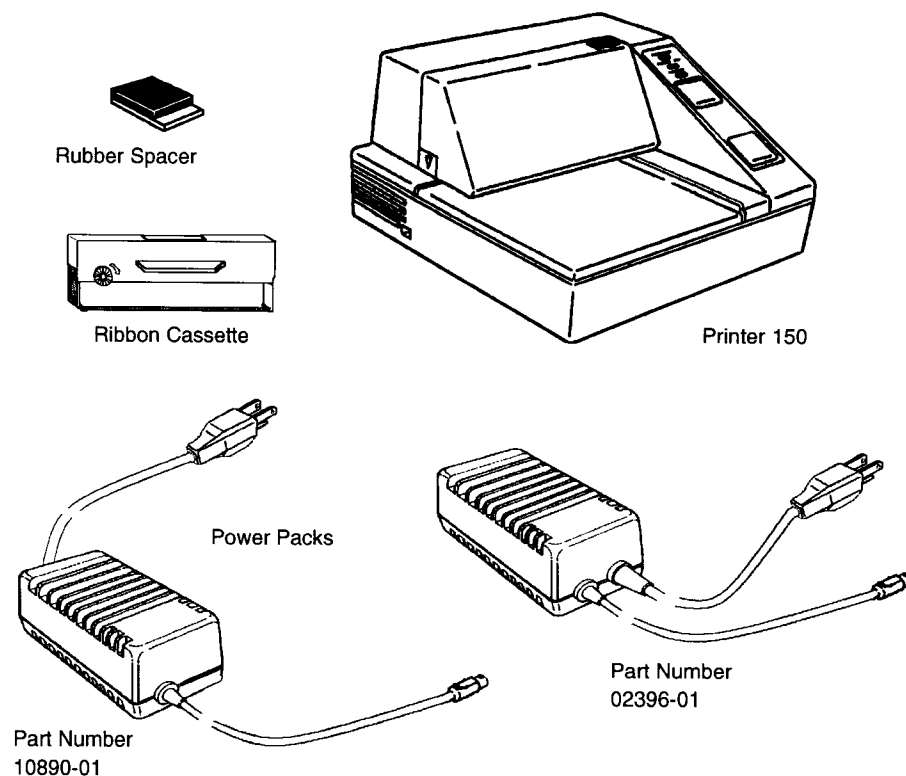
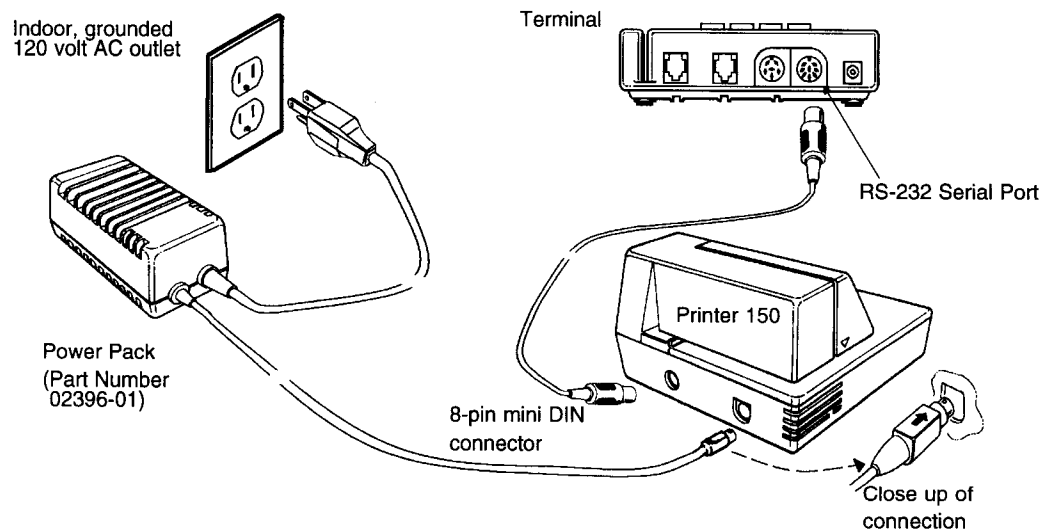

Figure A-2. Printer 150 Components
Figure A-5. Printer 150 Connections
1. Connect the small plug from the printer power pack to the power connector on the rear of the Printer 150. Ensure that the flat surface is up (arrow facing forward), as shown in Figure A-5.
Note: Figure A-5 depicts power pack with part number 02396-01. If power pack with part number 10890-01 is used, the power cord will appear from the opposite side of the power pack (as in Figure A-2); however, this does not effect the connections.